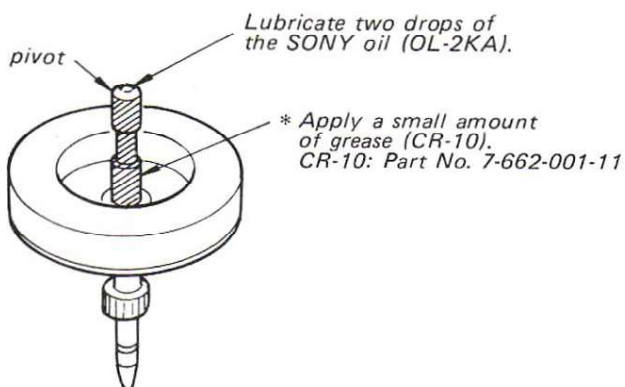

Fig. 5-2
- and apply grease to the parts marked by * in Fig. 5-2.